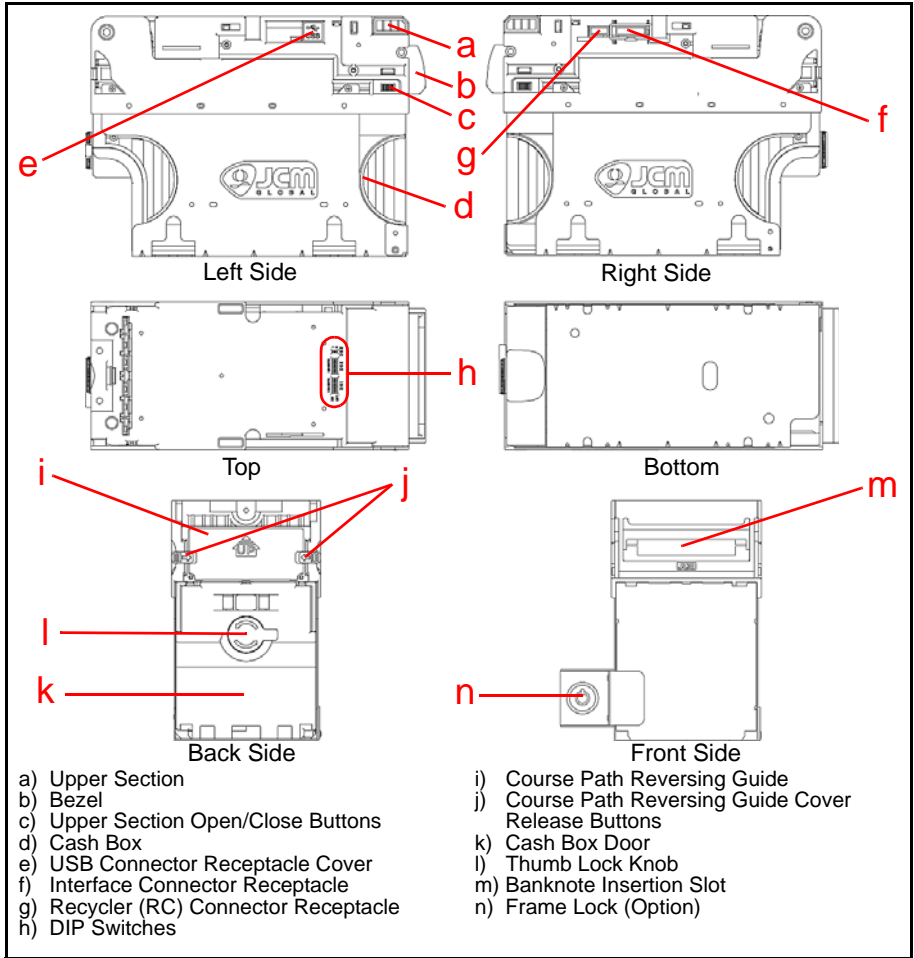

Figure 2 VEGA Component Names
Figure 2 illustrates the VEGA Component Names and Locations.
The VEGA Banknote Validator contains three (3) DIP Switch Blocks (i.e., DS1, DS2, and DS3). They are located in the center of the top of the Unit approximately two (2) inches from the front of the Unit (Review Figure 2 h).